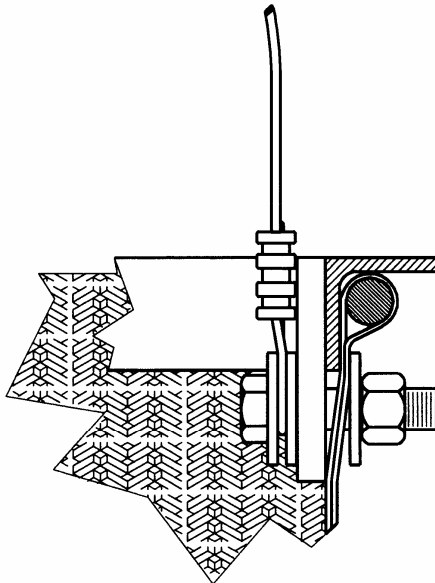

FIGURE 1
- 1. Operate hoist in the down direction to recheck the setting of the lower limit switch. When hook is in its lowest position, there should be a minimum of six (6) (for Models A, A-2, AA, AA-2, B, B-2, C, C-2, E, E-2, F, F-2, H and H-2) or eight (8) (for Models J, J-2, JJ, JJ-2, L, L-2, LL, LL-2, R, R-2, RR, RR-2, RT, RT-2, RRT, AND RRT-2) chain links between the loose end link and the hoist frame on the loose side of the chain. If there are less than the appropriate number of links, reset the lower limit switch per the instructions in Manual No. 627.**
- 4. Assemble the chain bag, bracket, wire retainer, (2) 3/8" Dia. bolts, (6) washers, (2) locknuts as shown in Figure 1.**
2. Assemble the chain bag, bracket, wire retainer, (2) 3/8" Dia. Bolts, (6) washers, (2) locknuts as shown in Figure 1.